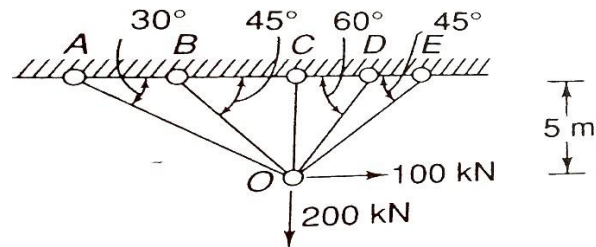

Figure 3.9
9. Analyze the pin-jointed structure shown in Figure 3.9 by flexibility matrix method. The area of each member is 200mm^2 . Take $E=200\text{KN/mm}^2$